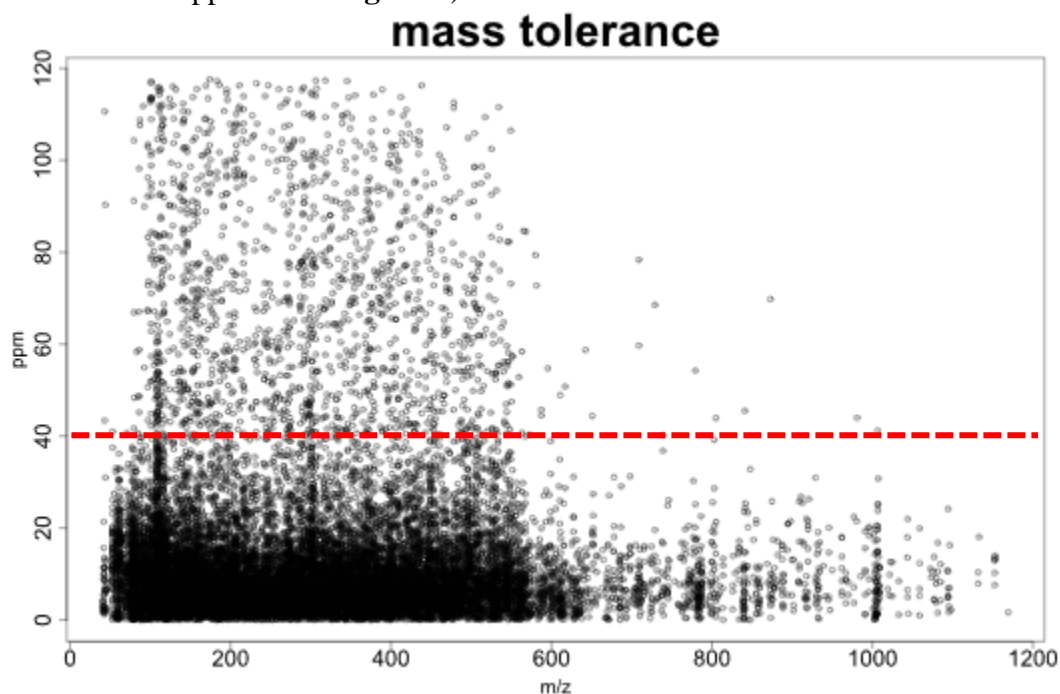

Figure 3. The mass tolerance distribution generated by Paramounter part 1.
- 5) **Run Paramounter part 1.** In R-studio, click on “→Source” in the top right corner of the R-studio interface to start running the code of part 1. In the end, Paramounter part 1 generates a plot in the bottom right corner showing the distribution of mass accuracy in the dimension of m/z . User can pick the ppmCut by visualizing the distribution. The ppmCut is the maximum ppm value within which the high-density points should be located (e.g. here 40 ppm is selected as the ppmCut in **Figure 3**).